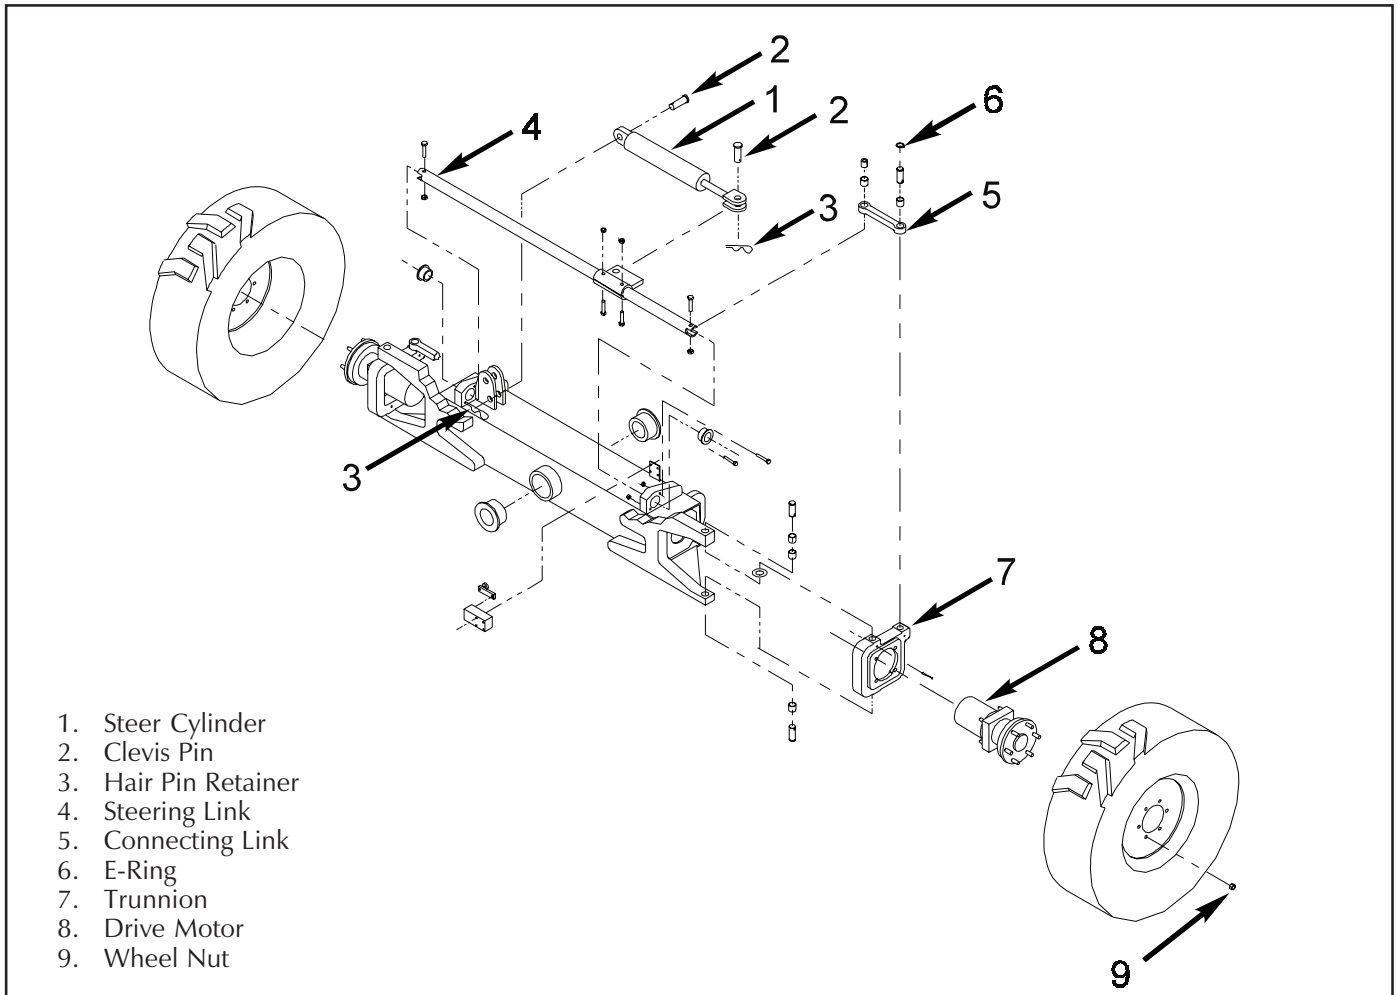

Figure 4-22: Front Axle Assembly 4WD
4.11 Steering Cylinder (Figure 4-22)